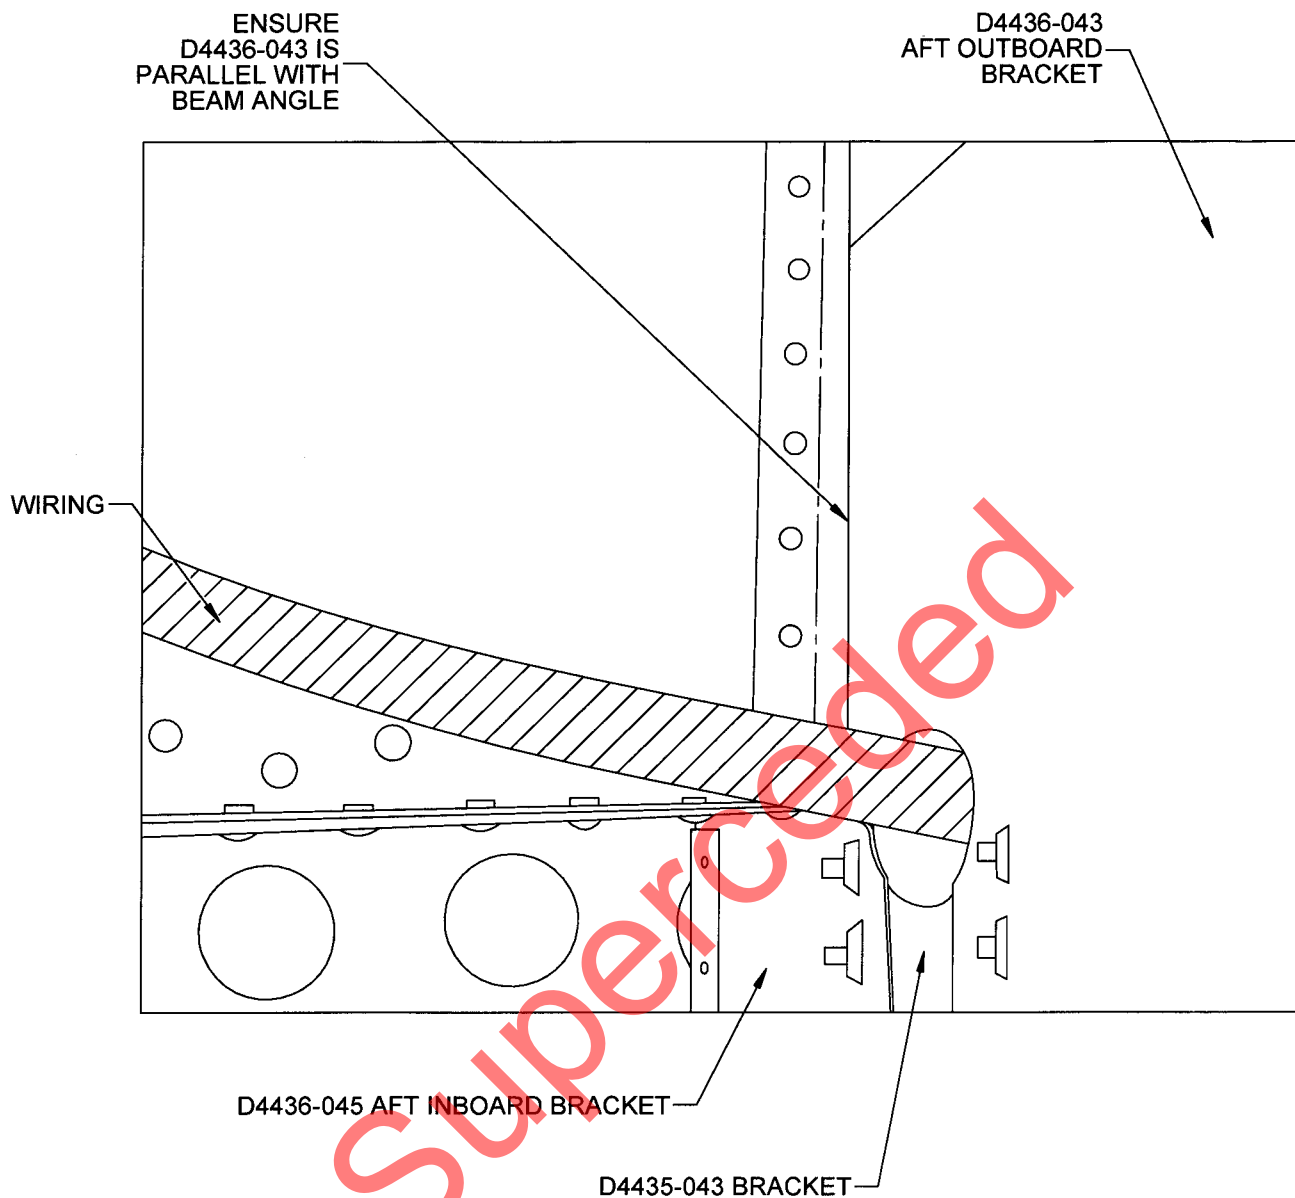

Figure 4. D4436-043 & D4435-043 Brackets Installation D
- Confirm that the D4436-043 Aft Outboard Bracket and beam angle are parallel as shown in Figure 4.